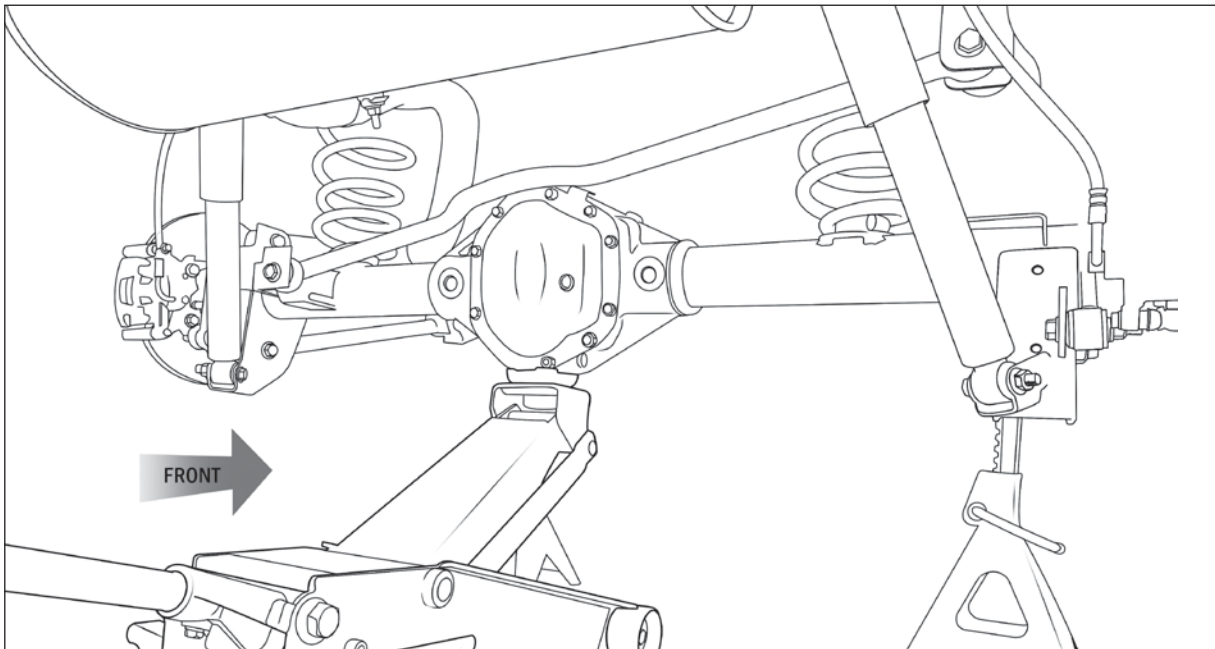

Figure 1
1. Raise Jeep and support the frame using jack stands or a hoist, such that the rear axle can be lowered enough to remove the springs. Support the axle by placing floor jack under the center of the axle. Remove the wheels (fig. 1).